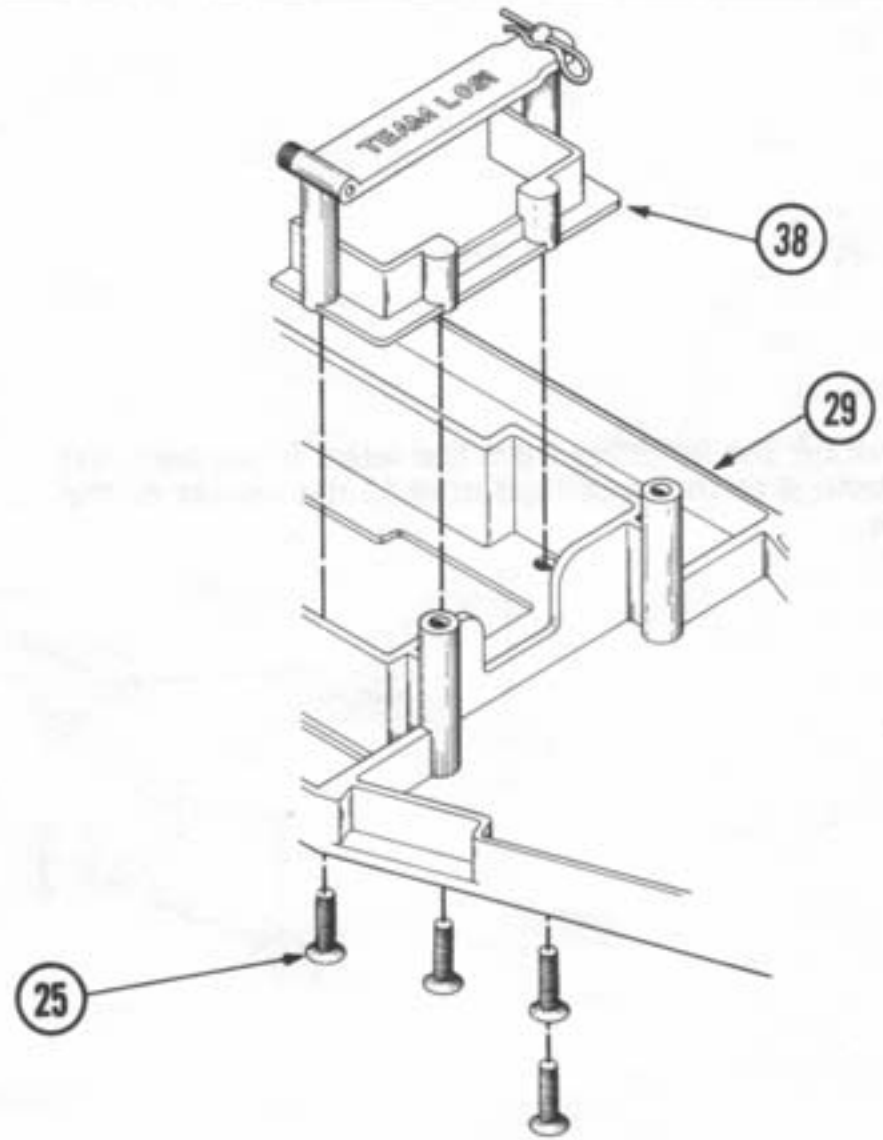

Figure 16
14. Attach battery box (38) to chassis (29) using four 8-32 x 1/2" aluminum screws (25). Fig. 16